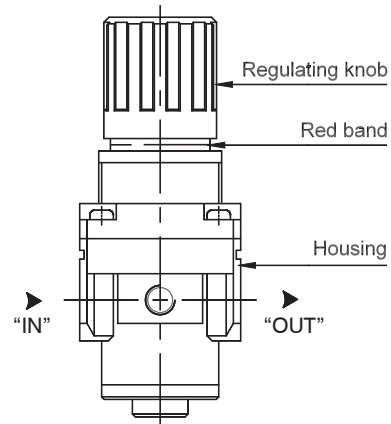

fig. 1
1. To set the Regulator, pull the regulating knob till "Red Band" (Indicator ring) is visible (refer to figure 1).